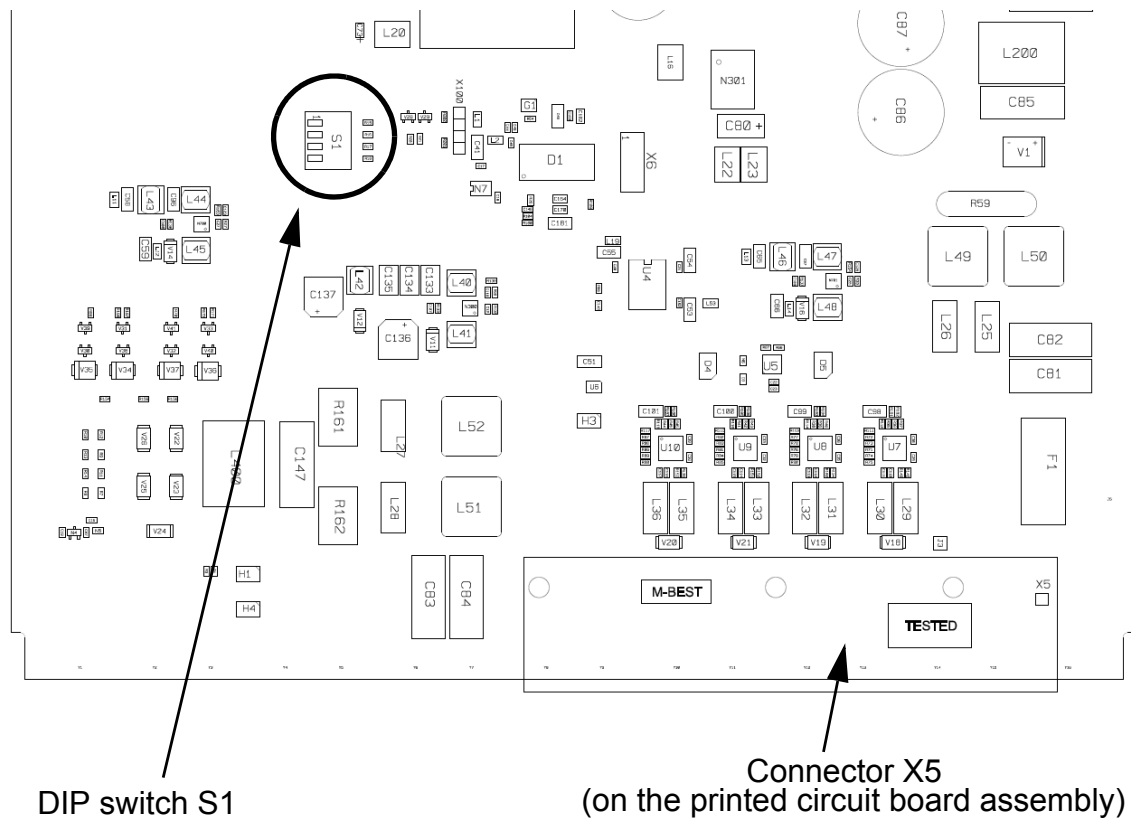

Fig. 9-2 Location of DIP Switch S1 on the Printed Circuit Board Assembly
- ✧ Adjust the desired frequency at DIP switches S1.1 to S1.4 according to figure 9-2.